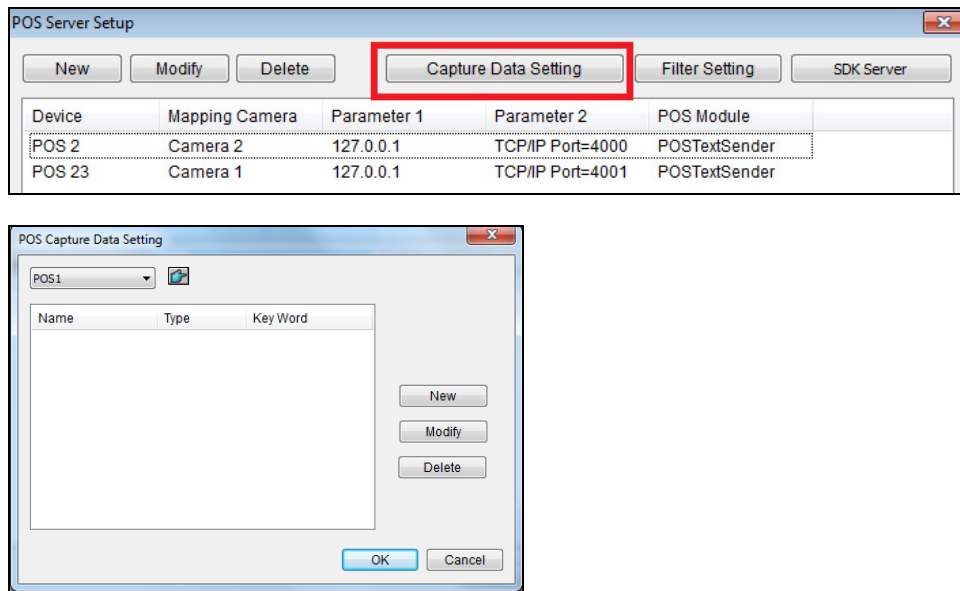

Figure 10-25
1. On the POS Server Setup dialog box, select a desired POS device, and select **Capture Data Setting**. The POS Capture Data Setting dialog box appears (Figure10-25).